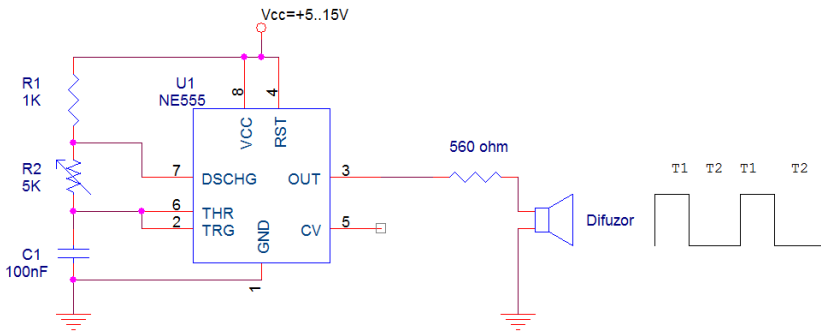
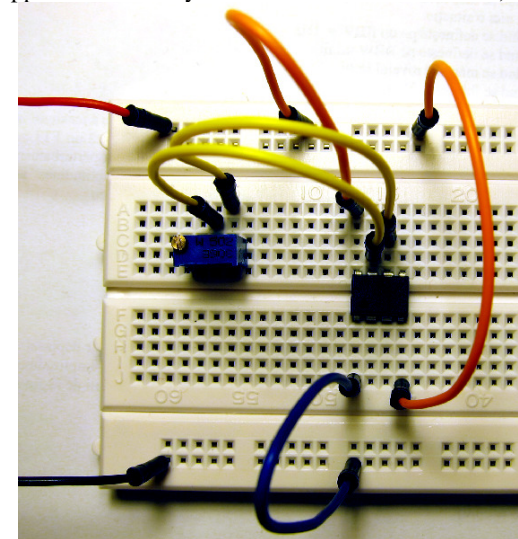

Figure 2: Circuit 555 – schematic for the astable configuration
Figure 3: U1-555 and R2 on the breadboard
The connection schematic of the circuit in *astable* regime is given in figure 2. At the Vcc and ground terminals we apply the supply voltage from a DC voltage source.
c) Build the circuit on the breadboard, according to the schematic in fig. 2. The supply of the I.C. is between pins 8 (Vcc – the positive terminal of the DC power supply) and 1 (ground). It can be noticed that pin 4 must be also connected to Vcc. In fig. 3 you have a suggestion on how to begin the circuit, in which the supply cables from the power supply (Vcc and ground) will be connected to the superior and inferior horizontal rows of the breadboard, respectively.
d) in order to verify the functioning, connect a loudspeaker (buzzer) in series with a resistance of $400..800\Omega$ between pin 3 and ground, according to the schematic in fig. 2; by varying with the screwdriver the trimmer R2, the frequency (pitch) of the sound that you hear must vary. By connecting the oscilloscope to pin 3, read the frequency of the trigger signal on the screen (bottom right part of the screen, according to annex A). Set R2 such that the frequency is around 1500-2000Hz (the audible signal at maximum intensity in the loudspeaker). If the frequency cannot be read in a stable way, use Trigger -> SET TO 50% or manually rotate the TRIGGER LEVEL button until the trigger level is approximately in the middle of the screen.
a) Set C_X in order to see on the screen between 2 and 4 periods. Measure with the oscilloscope the period T of the signal from pin 3, as well as T_1 and T_2 (see fig. 2), using 3 methods:
b) Measure using the MEASURE menu of the scope the frequency f_{meas} of the signal from pin 3. Calculate the frequency f_{calc} based on the period from point a (measured using the time cursors). By disconnecting R2, measure the value to which it was set by using the ohmmeter from the digital multimeter. Calculate using relation (2) the frequency $f_{\text{theoretical}}$ using the measured values of the components.
- Write the definition formula of η as a function of T_1 , T_2 , determine the theoretical ratio between T_1 and T_2 (figure 2) in order to have $\eta = 66\%$
- calculate $\eta_{(3)}$ based on formula (3)